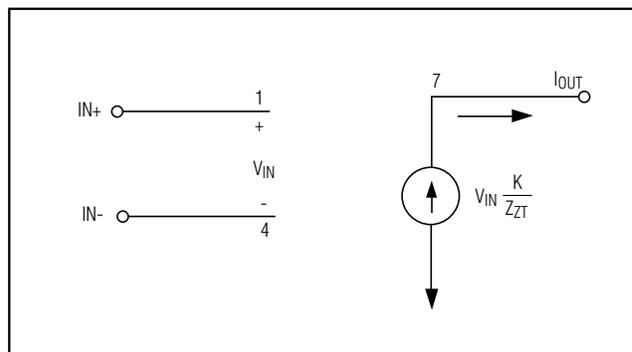

Figure 1. Operational Mode
The output is essentially a voltage-controlled current source as shown in Figure 1. The MAX9547 output is a current proportional to the differential input voltage, and inversely proportional to the impedance of the user-selected transconductance network, ZZT. The current output provides inherent short-circuit protection for the output terminal. A differential input voltage applied to the input terminals causes current to flow in the transconductance element (ZZT), which is equal to VIN / ZZT. This current in the transconductance element is multiplied by the preset current gain (K) and appears on the output terminal as a current equal to (K) x (VIN / ZZT). This current flows through the load impedance to produce an output voltage according to the following equation: